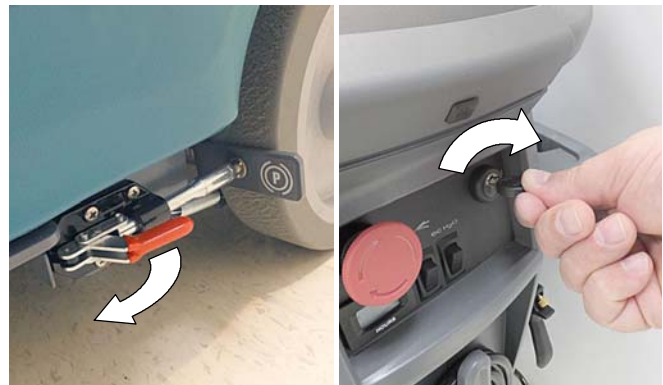

FIG. 74
1. Release the parking brake lever, if equipped (Figure 74)
2. Turn the key to the on (I) position (Figure 74).